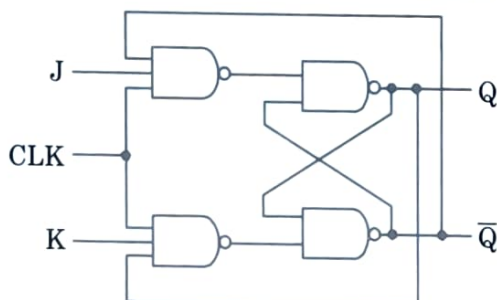

Fig. 3.19.1.
- Fig. 3.19.1 shows a clocked JK latch, based on NAND gates.